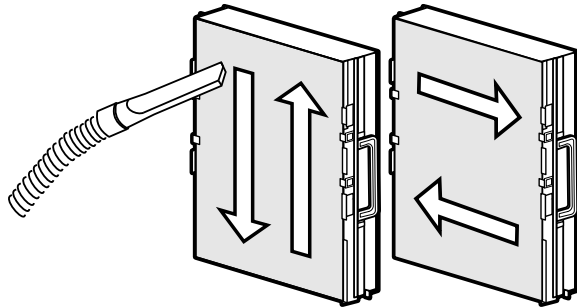

Figure 34 Vacuuming the Collection Cells
- Using a vacuum hose, vacuum in even strokes across the entire COLLECTION CELL surface. Vacuum using even strokes in one direction, then repeat the process using even strokes in the opposite direction, as demonstrated in Figure 34.